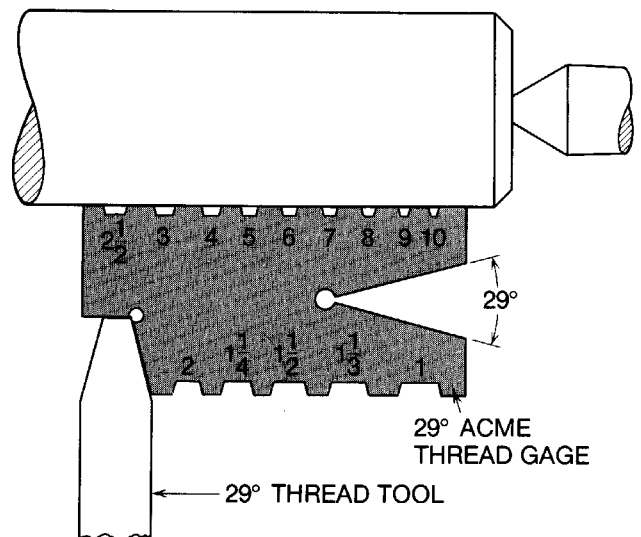

Figure 55-30 The toolbit is squared with the workpiece by an Acme thread gage.
1. Grind a toolbit to fit the end of the Acme thread gage (Fig. 55-30). Be sure to provide sufficient side clearance so that the tool will not rub while cutting the thread.
5. Set the Acme threading tool on center and square it with the work using the gage shown in Fig. 55-30.